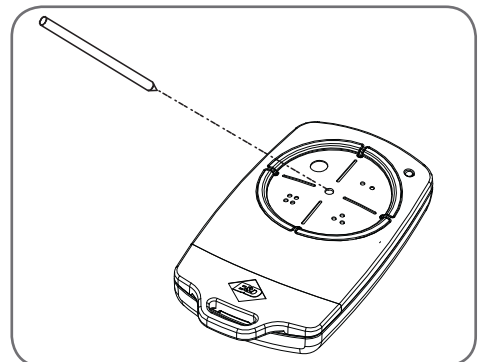

Fig. 8.3
- Using a small needle / pen, press and hold firmly for two seconds the middle button, through the Coding Hole (**Fig. 8.3**).
- Within ten (10) seconds take the additional transmitter you wish to code. Hold the new transmitter's button for two seconds, pause for two seconds, hold again for two seconds and then release.
- Wait for ten (10) seconds and then press the new transmitter's button to test.